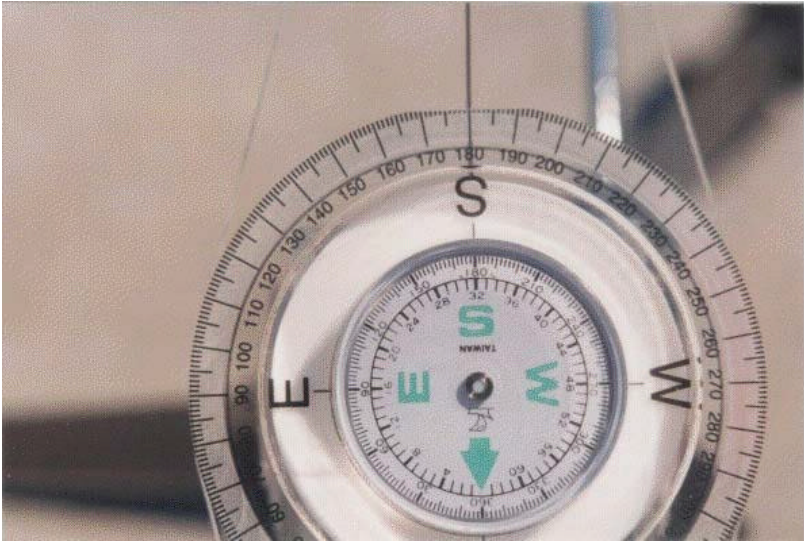

Fig. 3
- (4) Rotate unit on tripod so that compass now points to South as shown in Fig. 3.
**Note!** Photo in Fig. 3 positions view lens at top of photo.